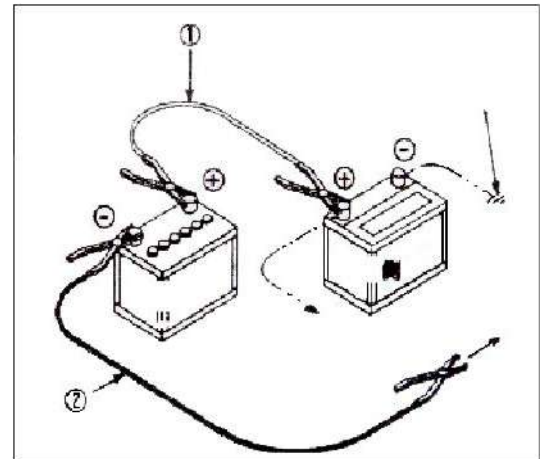

Fig 3-11
1. Using boost wire ① (Fig 3-11) connect the positive pole of the battery to the positive side of the discharged battery
2. Using boost wire ② (Fig 3-11) connect the negative side of auxiliary battery to the earth point of the upper platform, do not connect to the negative pole of the battery directly.